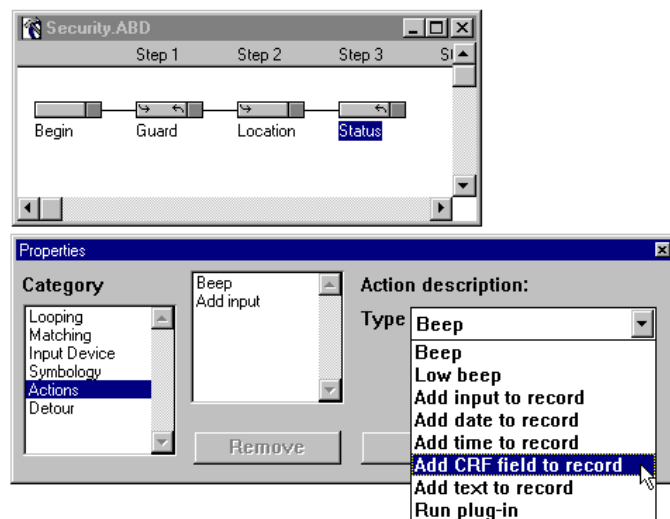

Figure 3-98 “Status” Handler - Actions Property
h) Choose **Add CRF field to record** from the **Action description** pop-up menu (Figure 3-98).